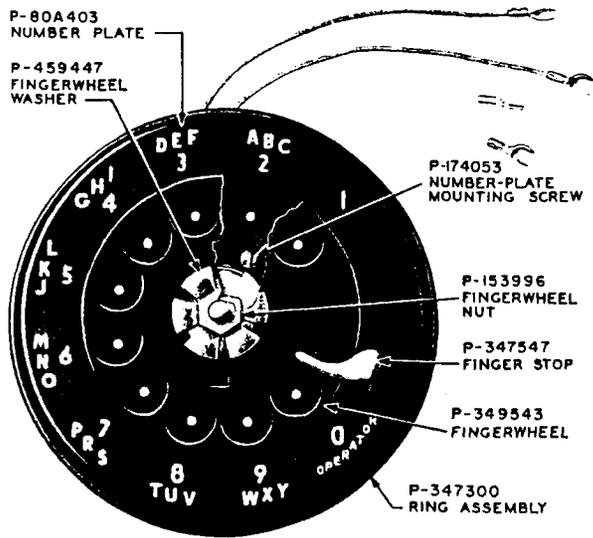

**Fig. 17 - 7-Type Dial, Assembly of Parts**
**7.07** To replace the number plates on 7A-, C-, H-, J-, or K-type dials, reverse the sequence in Fig. 13 through 17. *Re use ring assembly from the previous number plate. (See Fig. 17.)*